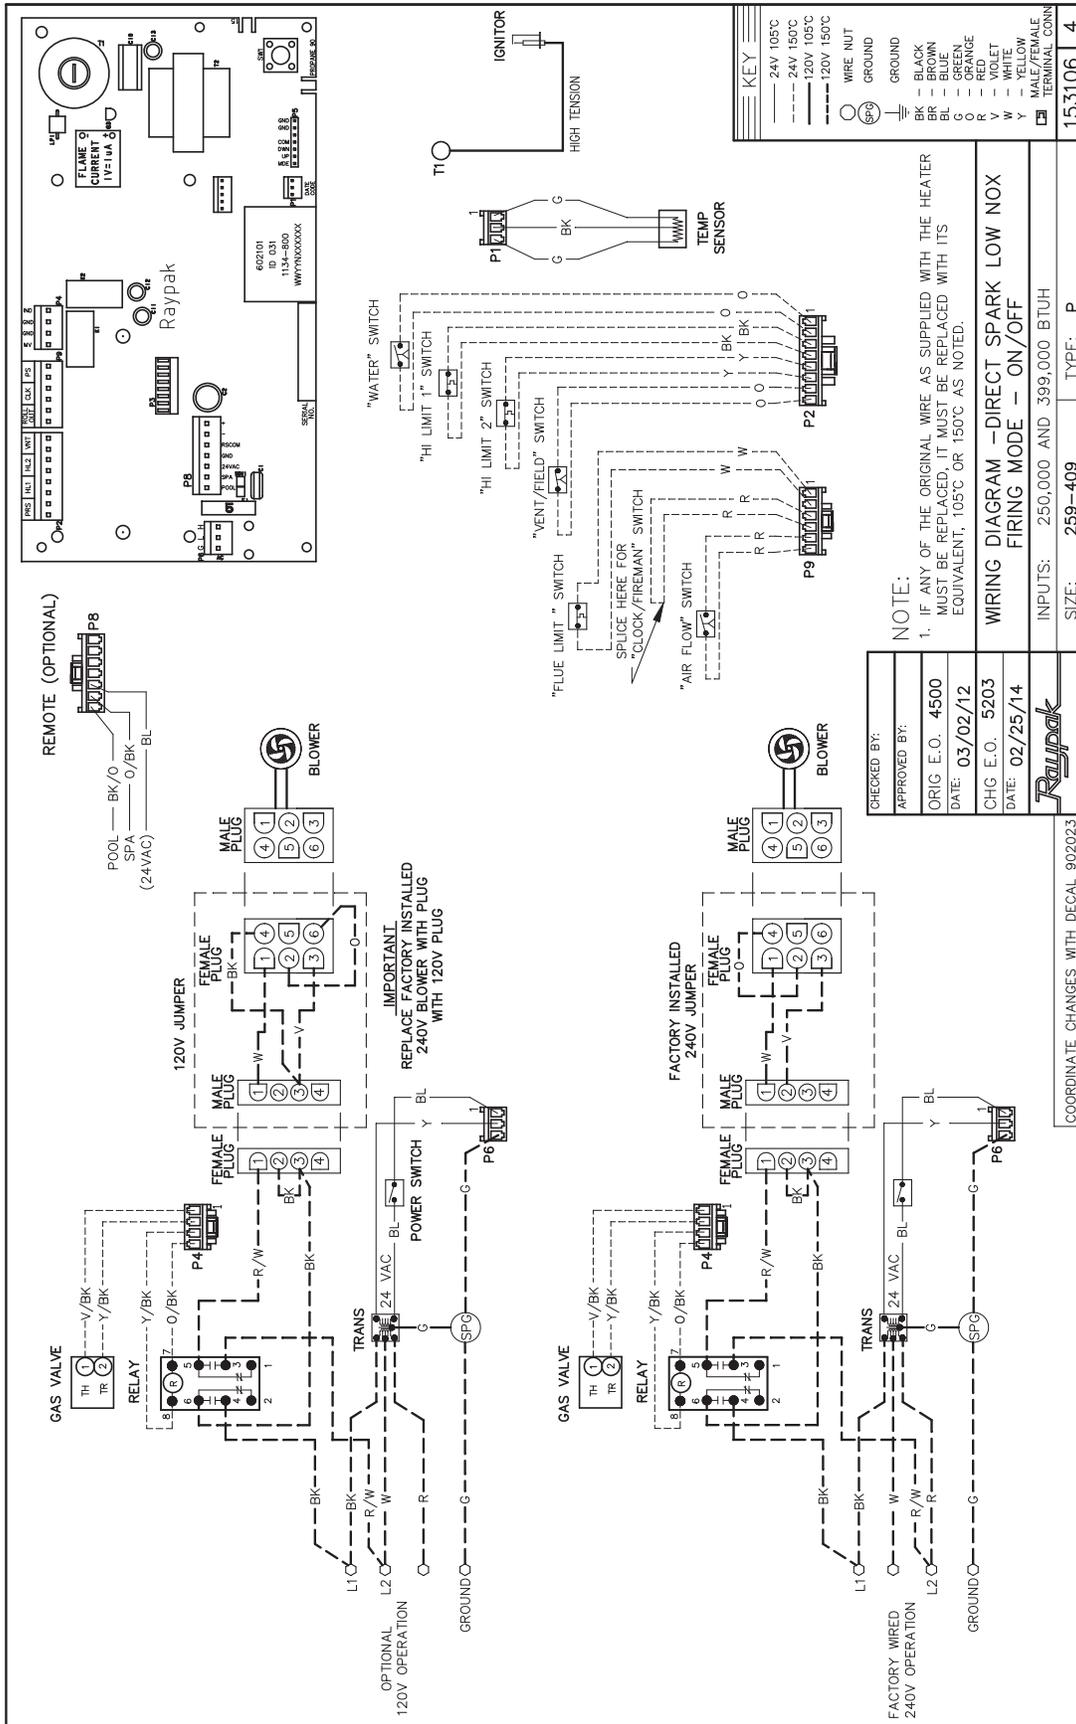

Figure 14. Wiring Diagram - Professional 84 Models
14. Refer to the wiring diagram (see **Figure 14**) if there are any wiring issues.